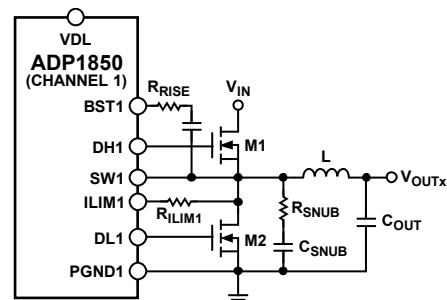

Figure 35. Application Circuit with a Snubber
In any high speed step-down regulator, high frequency noise (generally in the range of 50 MHz to 100 MHz) and voltage overshoot are always present at the gate, the switch node (SW), and the drains of the external MOSFETs. The high frequency noise and overshoot are caused by the parasitic capacitance,  $C_{GD}$ , of the external MOSFET and the parasitic inductance of the gate trace and the packages of the MOSFETs. When the high current is switched, electromagnetic interference (EMI) is generated, which can affect the operation of the surrounding circuits. To reduce voltage ringing and noise, it is recommended to add an RC snubber between SWx and PGNDx for high current applications, as illustrated in Figure 35.
In most applications, a component size 0805 for  $R_{SNUB}$  is sufficient. However, the use of an RC snubber reduces the overall efficiency, generally by an amount in the range of 0.1% to 0.5%. The RC snubber does not reduce the voltage overshoot. A resistor, shown as  $R_{RISE}$  in Figure 35, at the BSTx pin helps to reduce overshoot and is generally between  $2\ \Omega$  and  $4\ \Omega$ . Adding a resistor in series, typically between  $2\ \Omega$  and  $4\ \Omega$ , with the gate driver also helps to reduce overshoot. If a gate resistor is added, then  $R_{RISE}$  is not needed.